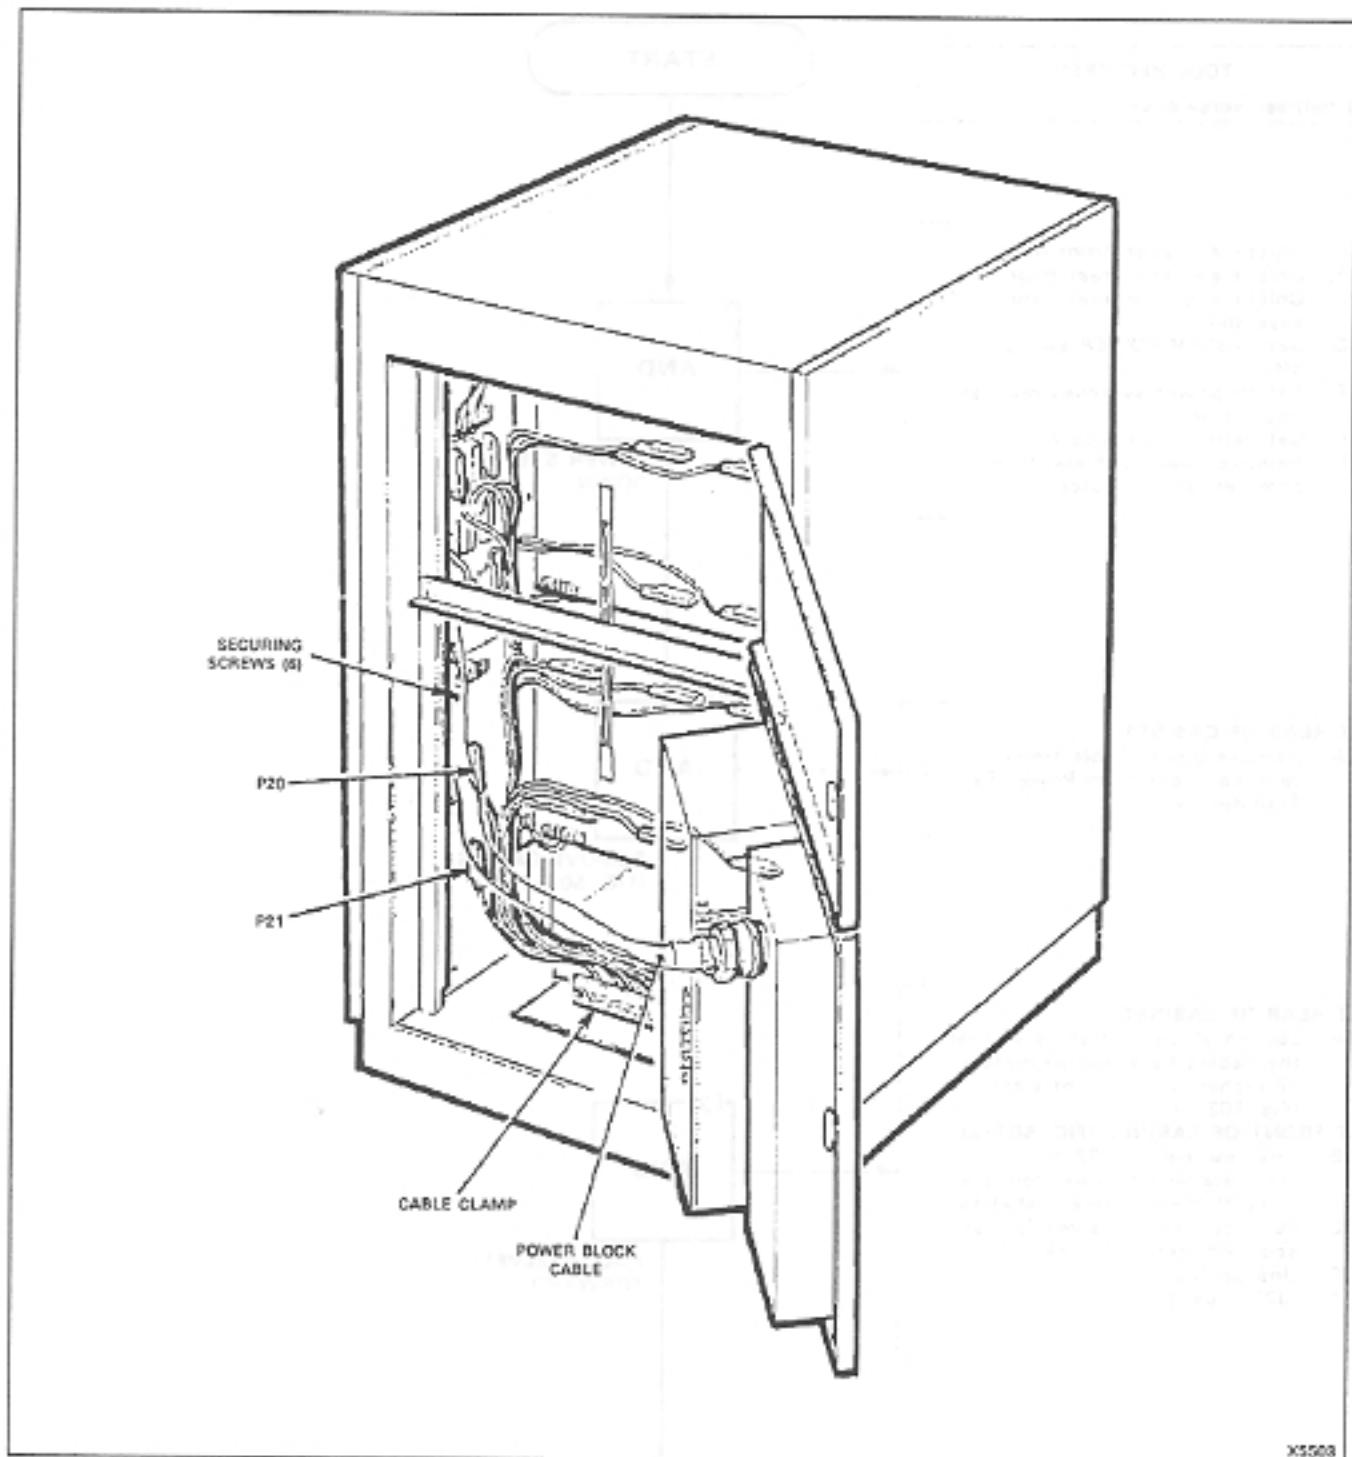

Fig. 503-1 Cables
- (3A) Loosen all cable clamps so that the cables have approximately 10 inches (25.4 cm) of slack (Fig. 503-1)